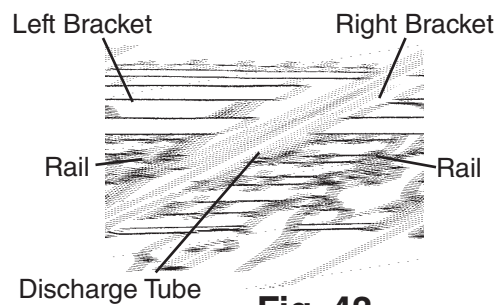

Fig. 43
- 12) Slide in the spray assembly along the rails on the left and right brackets. See Fig. 43. Connect the discharge tube securely to the spray assembly; a loose fitting may cause a water leak.